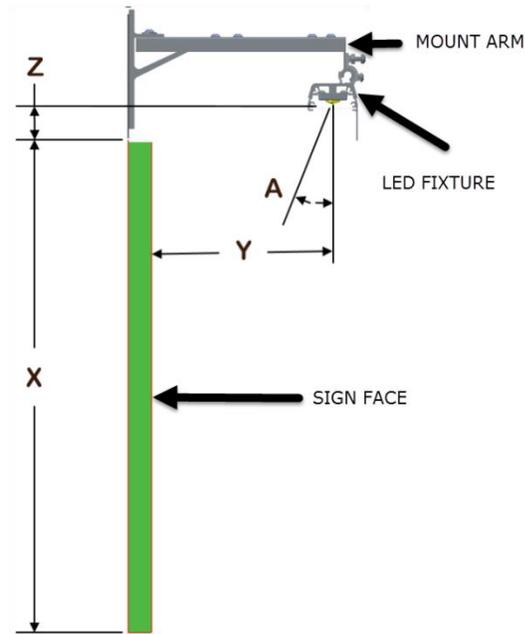

Figure 1: Mounting Diagram
Figure 1 shows a mounting diagram for LinearStar. Note the location of the fixture relative to the sign surface. The Head Angle is critical to achieve uniform lighting on the sign surface and depends on the sign height as shown in Table 1.
1. The LED Fixture must be located roughly 15" from the sign face. Adjust the Mount Bracket along the Mount Arm if needed to accomplish this. The swivel on the Mount Bracket is pre-installed at a 21" distance from the wall, which is good for a 6" deep sign. See Figure 1.